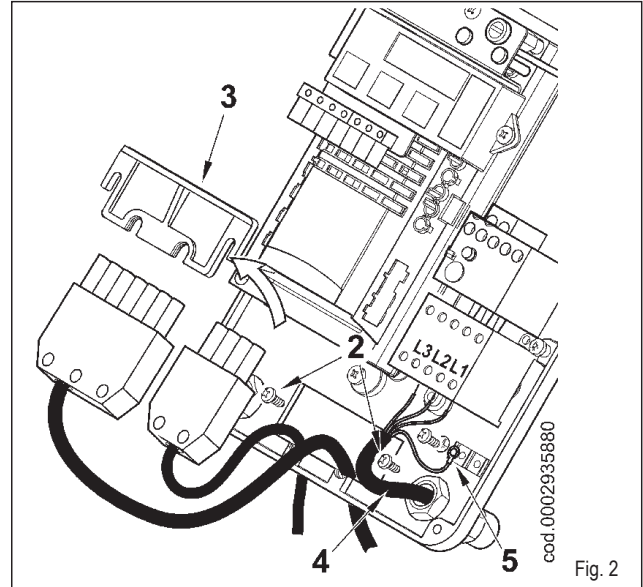

Fig. 2
- Loosen the screws (2) to remove the cable clamp plate (3), feed the two 7 and 4 pole pins through the hole as shown in figure 2. Connect the power supply cables (4) to the contactor, fasten the grounding cable (5) and tighten the relative cable gland. In the case of a single-phase burner, only the cables L (phase) and N (neutral) corresponding to positions L1 and L3 as shown in figure 2 are connected to the contactor.
- Make sure that mobile plate 3 is held in place by screw 4. This will permit the mixer unit to be reassembled in the position adjusted previously after completion of maintenance work. Slacken screw 5, which anchors the unit's forward movement rod to the mobile plate (figure 2).
- 3) Now remove the 4 nuts (5) in figure 2, dismantle the flame tube (6) and, after pulling off the lung (7) from its stud bolts, put it back in position with the threaded connection for anchoring the gas train turned upward.
- 4) To complete the operation, anchor the flame tube (6) and the lung (7) in place with the 4 nuts (5), then put the mixing unit back in its housing.